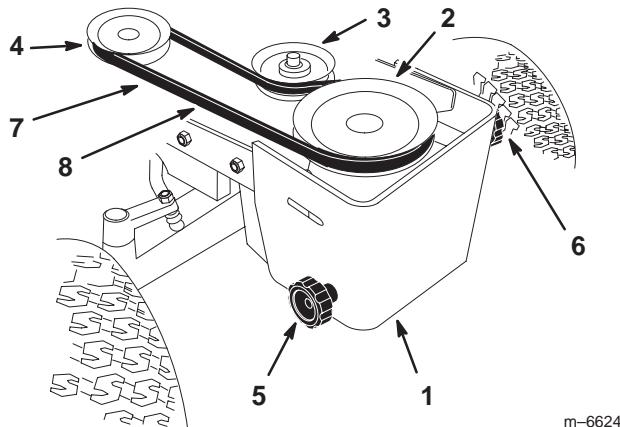

Figure 8
1. Install the PTO belt onto the clutch pulley (Fig. 8).
2. Install the PTO belt onto the upper pulley and upper idler pulley in the pulley box (Fig. 8).
3. Turn the left knob on the front pulley box to tighten the PTO drive belt (Fig. 8). There needs to be a 1/2 inch (13 mm) deflection in the belt.
- Turn the right knob on the front pulley box to tighten the mower drive belt (Fig. 8). There needs to be a 1/2 inch (13 mm) deflection in the belt.